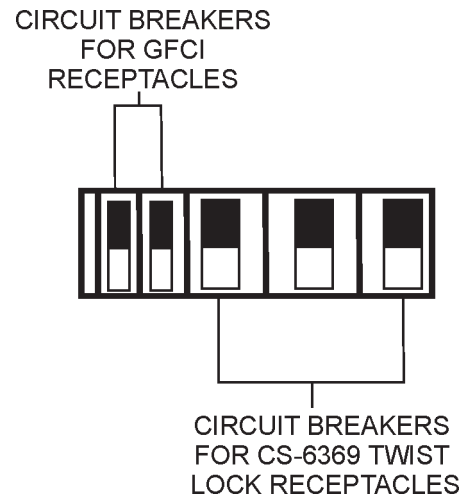

Figure 42. GFCI and Auxiliary Circuit Breakers (OFF)
3. Place the **G.F.C.I.** and **aux.** circuit breakers (Figure 42) in the "OFF" position prior to starting the engine.
1. Place both the **GFCI** and **AUX** circuit breakers as shown in Figure 42 to the **OFF** position.